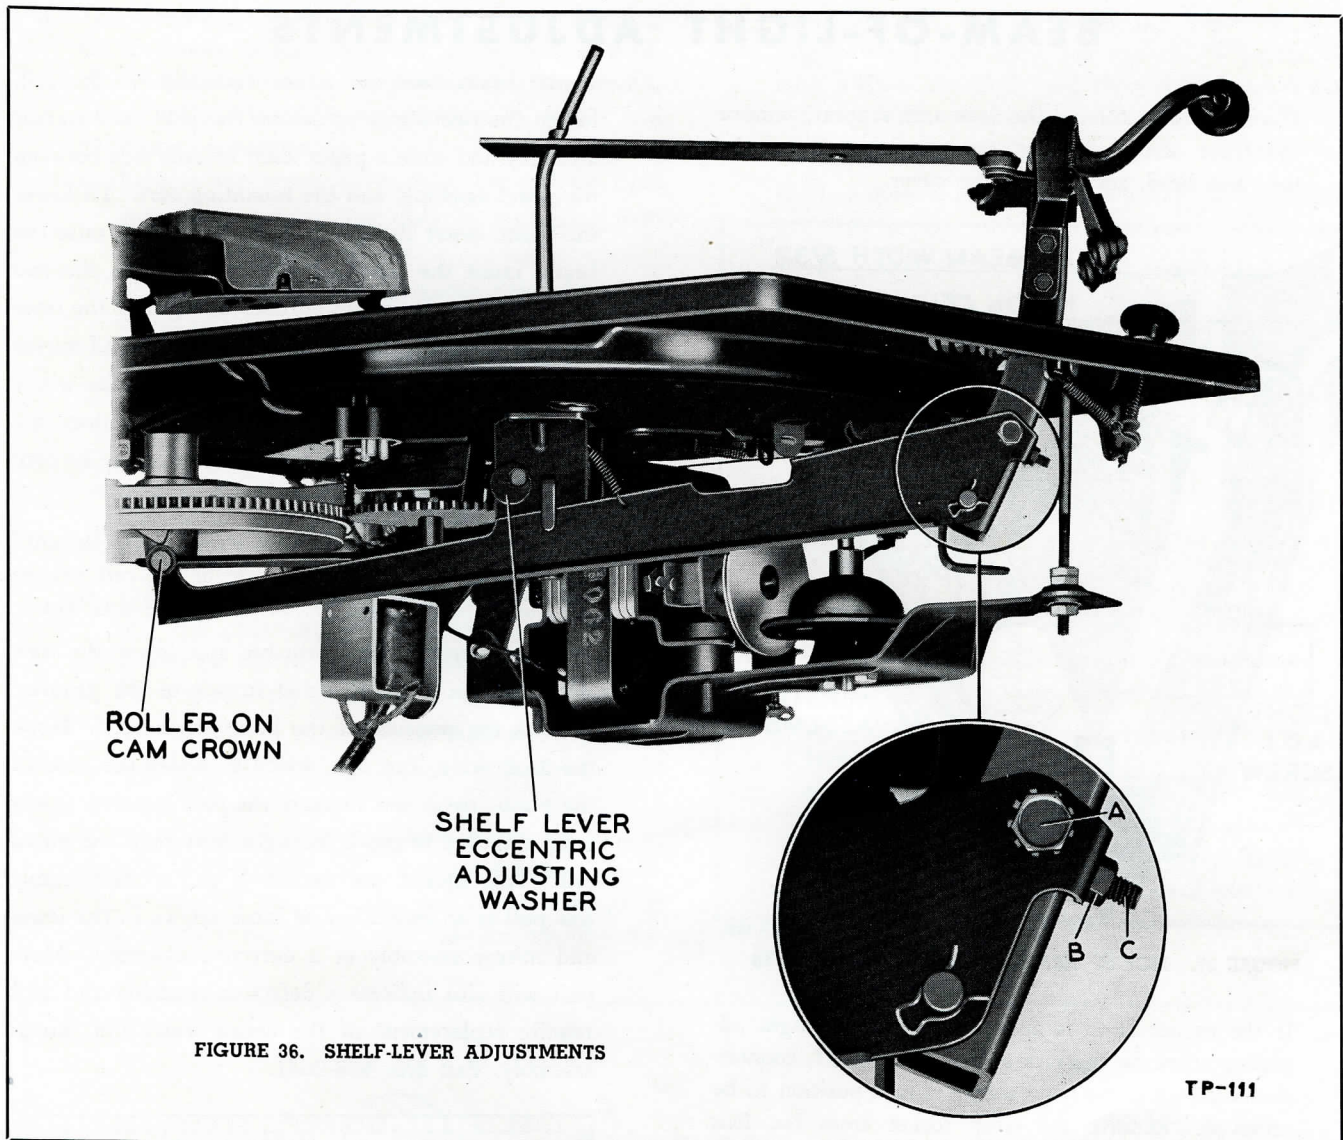

FIGURE 36. SHELF-LEVER ADJUSTMENTS
on the cam gear; this is the maximum "push" position, figure 36.
5. Referring to figure 36, loosen locking screw A, loosen lock nut B, and adjust screw C until the shelf gauge fits snugly between the record-shelf cam and the spindle, with the top of the gauge even with the spindle notch.
11. With the gauge resting on the spindle notch, adjust the shelf-lever eccentric washer, figure 36, so that the gauge fits freely onto the record-shelf cam. During this adjustment, all play in the spindle must be taken up toward the record shelves. This adjustment will be correct also for the 10" record shelf and should not be repeated.